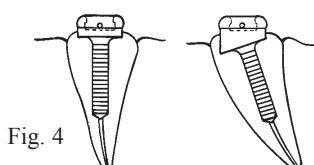

Fig. 4
- NOTE: The majority of the outer surface on the base of the Locator Female must remain above the face of the root to allow the male to snap in without interference. (Fig. 4)**